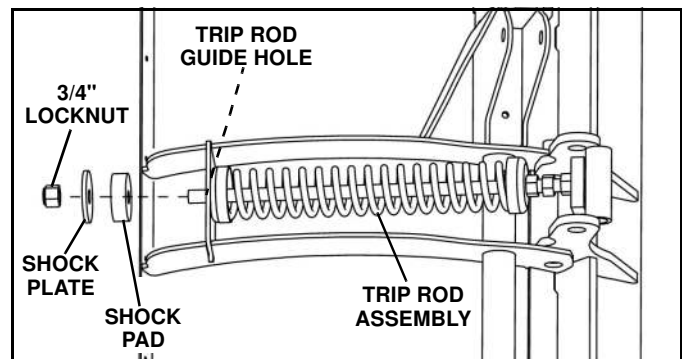

Figure 2-7
6. Slide the trip rod assembly into a trip rod guide hole in the blade (See Figure 2-7)